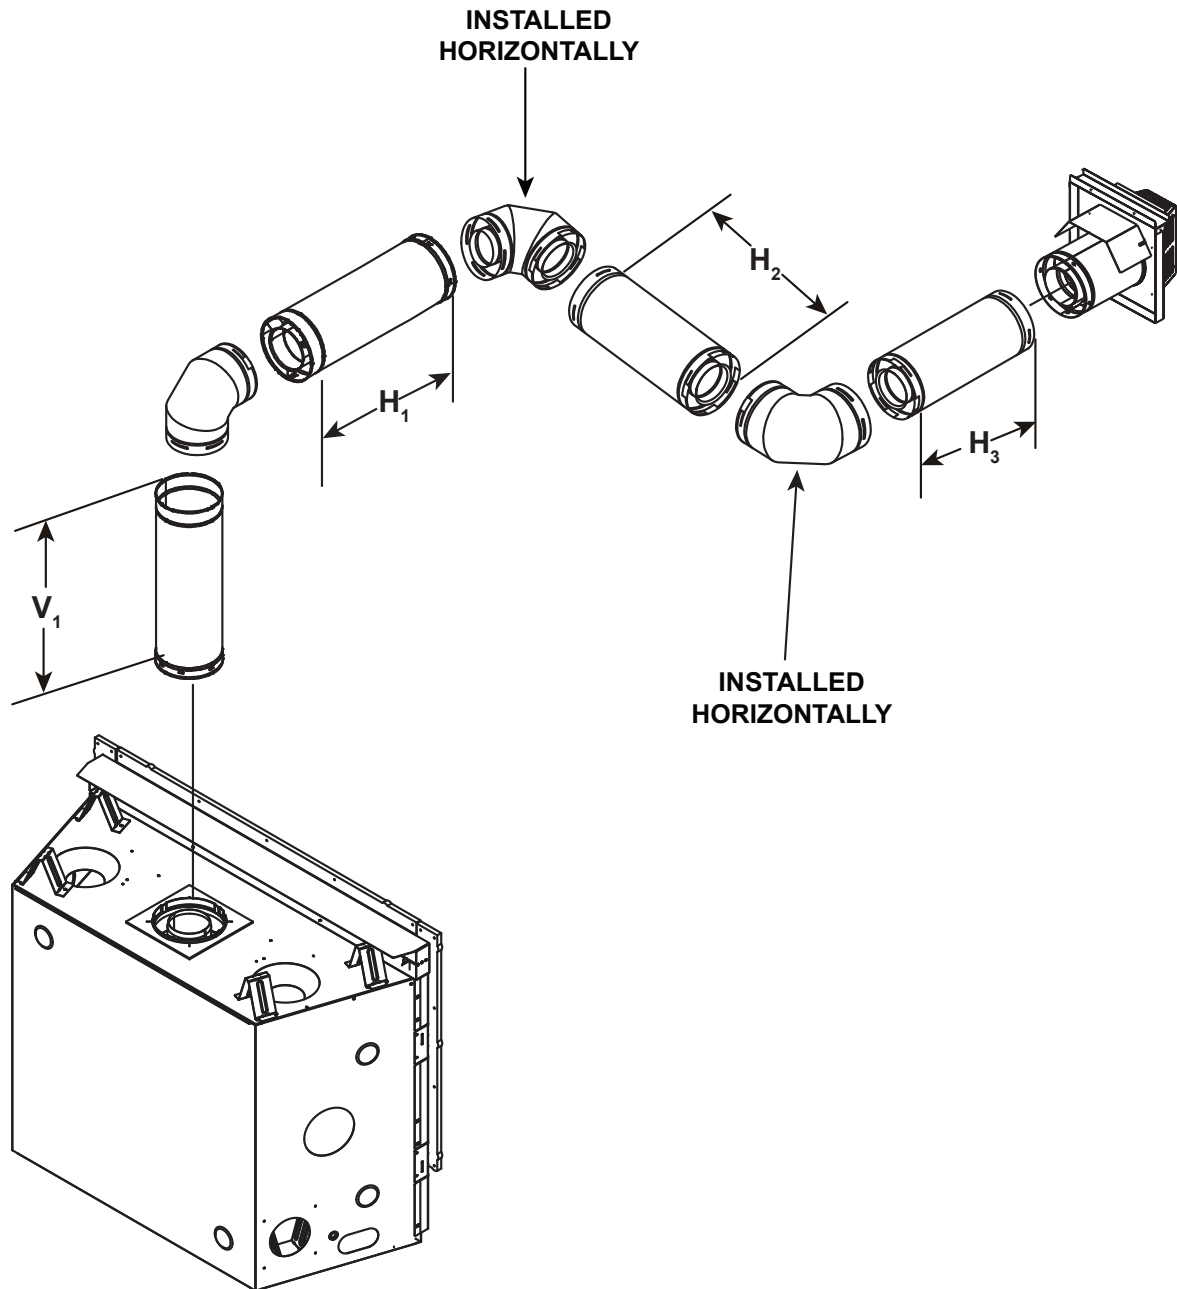

Figure 4.15
- A maximum of three 90° elbows (or six 45° elbows) may be used in any vent configuration. Some elbows may be installed horizontally. See Figure 4.15.